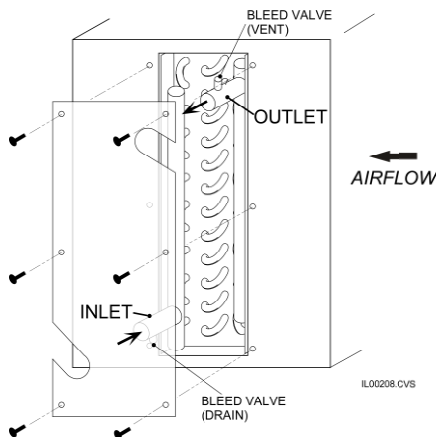

Figure 1. Hot Water Coil with Cover Plate
For vertical upflow arrangements where the air enters the bottom of the unit, use the vertical plenum (MV) module for the M2430 and M3660. Coil installation is identical to the MH installation instructions and shown in Figure 1. Detailed specifications for the MV unit are available in Bulletin 20-20.5.